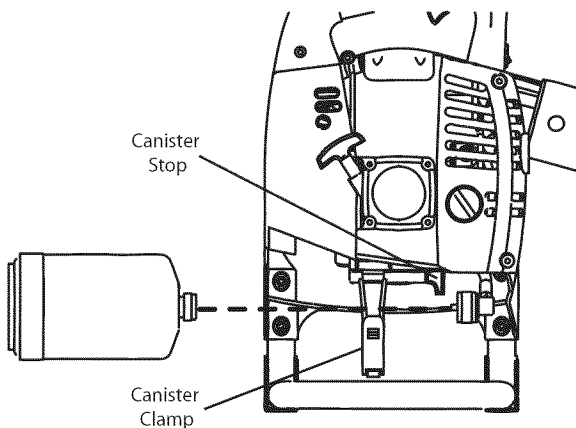

Fig. 5
3. Insert the threaded end of the propane canister into the canister clamp until it contacts the canister stop (Fig. 5).